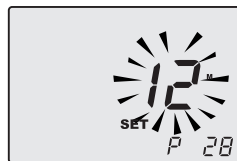

Fig. 10.3
- Scroll through the various parameters using key 16 or 17 until the LCD display indicates the letters **P28** and the value of the parameter, indicating entry in "parameter 28" (Fig. 10.3).